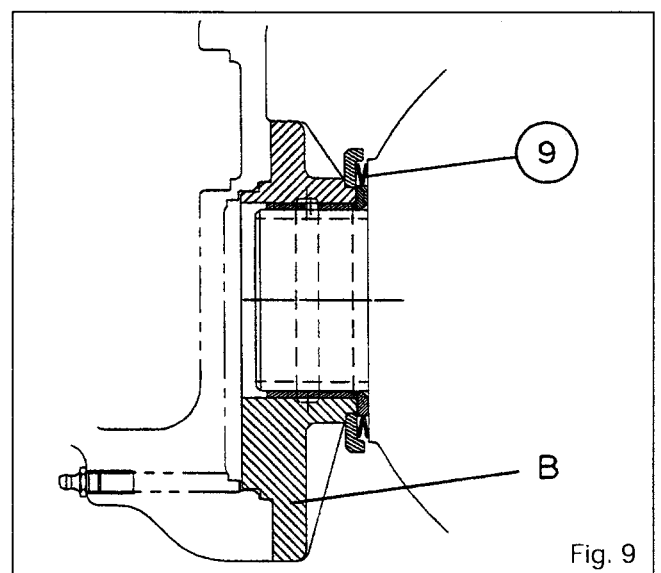

Fig. 9
B : Support for PTO with dust guard (9) (Fig. 9).